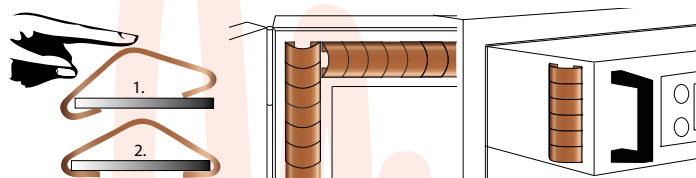

Figure 98: Snap-on fingerstrips for slot mounting and large compression
**98 When there is a wide range of compression required**, our 2200 series Snap-on Fingerstrips or our 2300 series Stick-on fingerstrips may be suitable. These fingerstrips with self-adhesive can be integrated in the construction. Snap-on Fingerstrips can be firmly mounted in slots in your construction so that also a compression to nearly 0.25 can be realized. (Fig. 98)